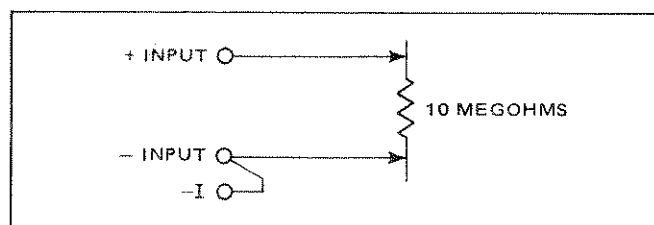

Figure 5.5 - Ohms Input Connection
- Remove short from INPUT and CURRENT terminals. Connect a 10 Megohm standard resistor across the \pm INPUT terminals. Do not connect the + CURRENT lead (figure 5.5).